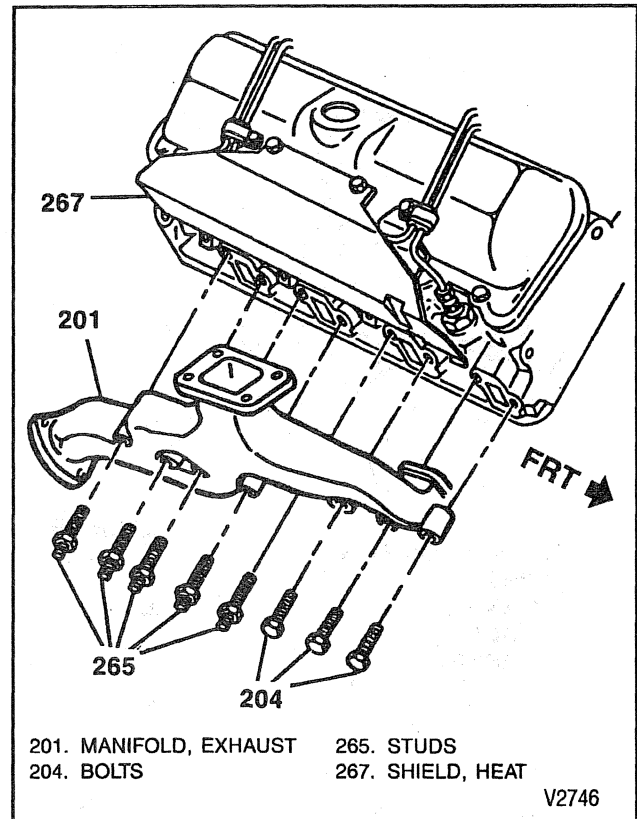

Figure 9—Exhaust Manifold and Heat Shield
10. Exhaust clamp at turbocharger (figure 9).
**Install or Connect** (Figures 9, 10, 11, and 12)
- B. Make sure the turbocharger and exhaust manifold flanges are clean and free of any foreign material. Use a high temperature anti-seize compound (GM P/N 1052771) or equivalent on all threaded fasteners connected to the turbocharger (figure 9).